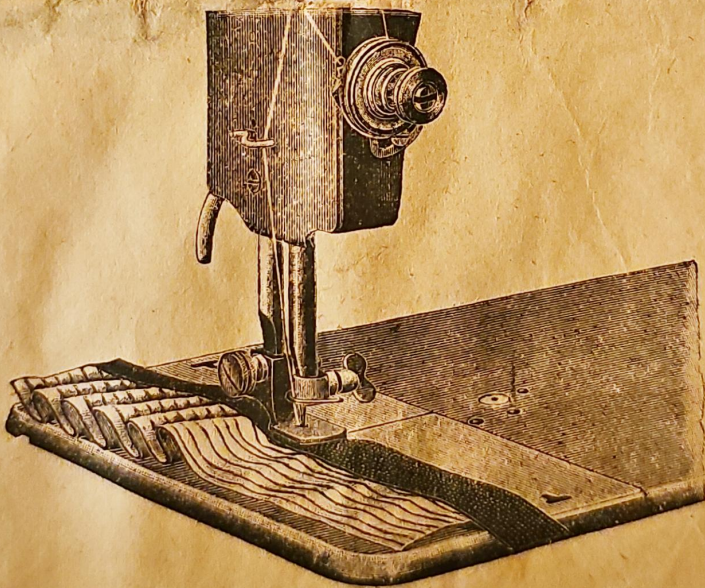

Fig. 18
8. The Gatherer (Fig. 18).
The gatherer fig. 18. When using the gatherer on double material the undersurface will be frilled or pleated while the upper surface remains firmly stitched. The lower material is placed as usual under the appliance, the upper guided into the slit of the